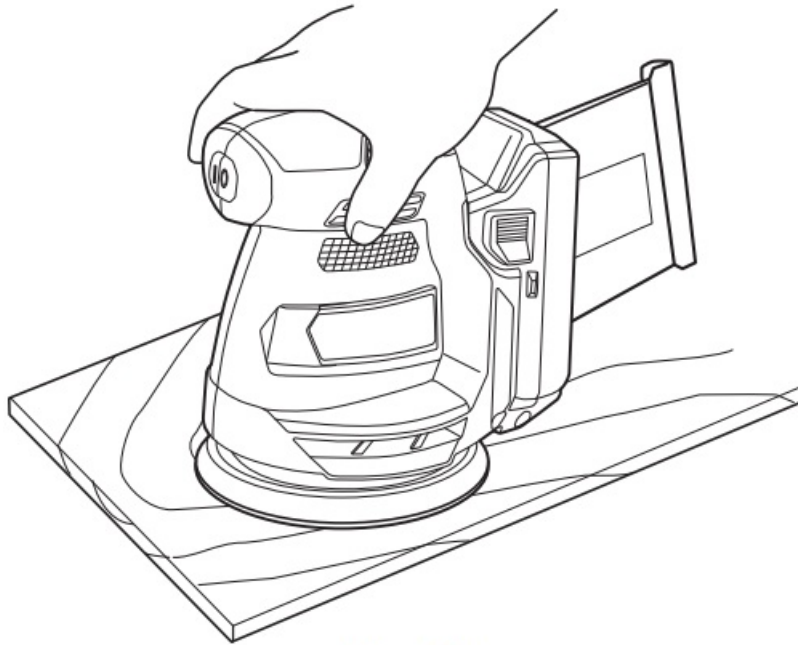

Fig. 10
1. How to hold the random orbit sander While gripping the housing, lightly press the sander against the surface to be sanded so that the sanding paper uniformly contacts the surface, as shown in Fig. 10. DO NOT apply excessive pressure to the sander while sanding. Excessive pressure may cause an overload of the motor, reduced service life of the sanding paper, and lowered sanding or polishing efficiency.